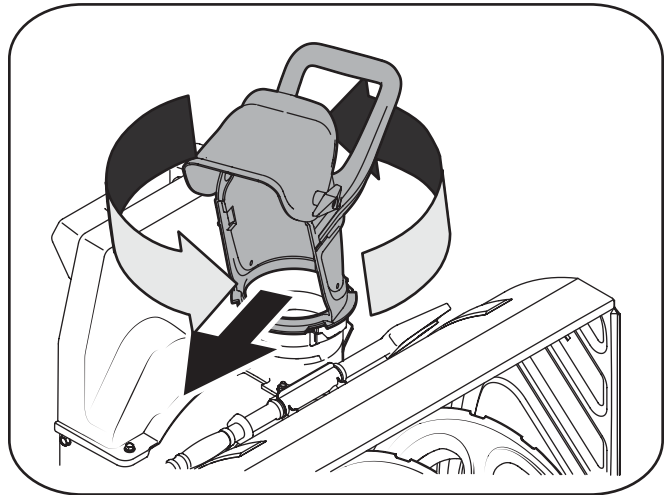

Figure 7-2
4. Rotate the discharge chute to the right as shown in Figure 7-2.